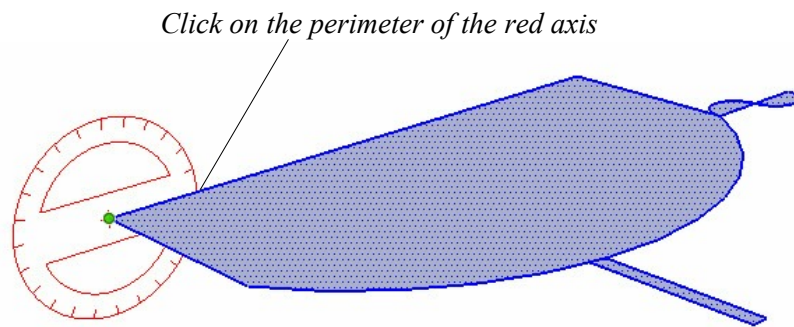

Figure 95. Rotating the Large Planter profile to the vertical axis
- Use the Orbit tool to obtain a view similar to Figure 95.
- Select the whole of the planter profile as shown in Figure 95.
- Click once in the centre of the red axis and click again on the perimeter of the red axis where it coincides with the line of the planter as shown in Figure 95.